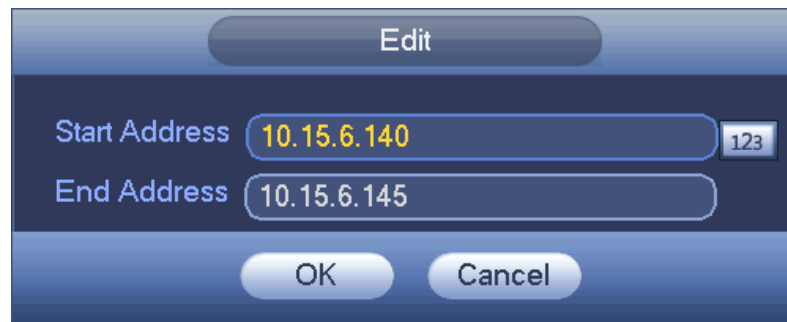

Figure 4-110
- **Edit:** Click it to edit start address and end address. See Figure 4-110. System can check the IP address validity after the edit operation and implement IPv6 optimization.